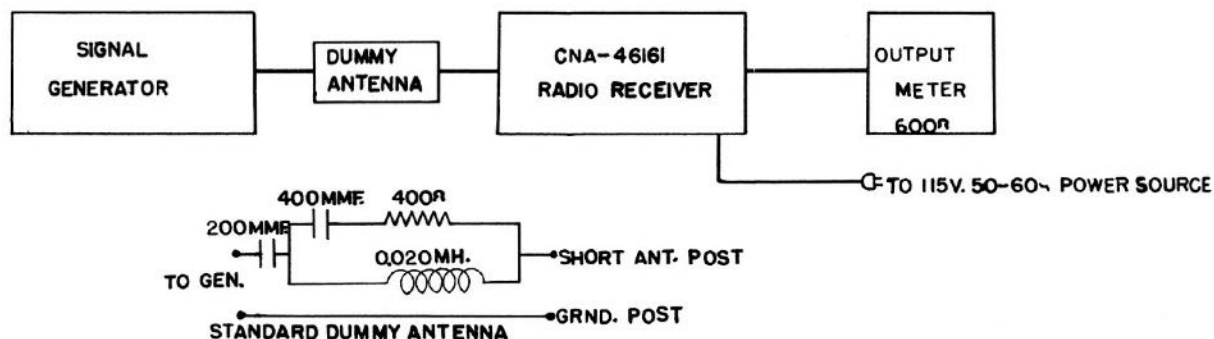

Figure 5-5 - Alignment Connections
b. The receiver control should be adjusted for C.W. operation as explained in Section 3, Paragraph 3.a. Connect the signal generator through a dummy antenna to the short antenna terminals of the receiver as shown by the block diagram of Alignment Connections, Figure 5-5. An output meter having a resistive load of 600 ohms should be connected either to the phone jack output circuit or to the output terminal strip E-101.